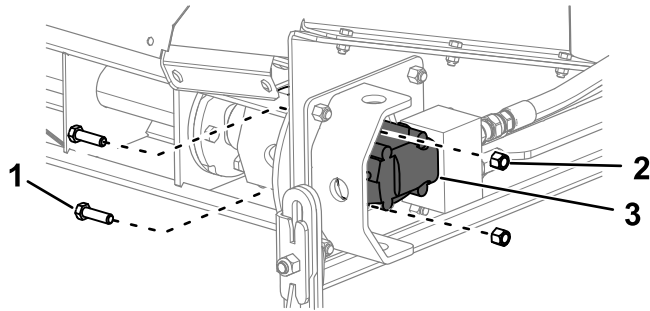

Figure 11
- Remove the 2 bolts (1/2 x 1-3/4 inch) and 2 locknuts (1/2 inch) securing the motor assembly and remove the motor assembly (Figure 11).
10. Install the motor assembly (Figure 11).